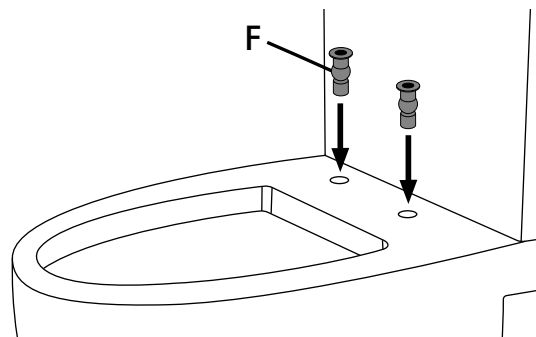

Fig. 1
1. Insert the expansion nuts (F) into the mounting holes of the toilet. See Fig.1.